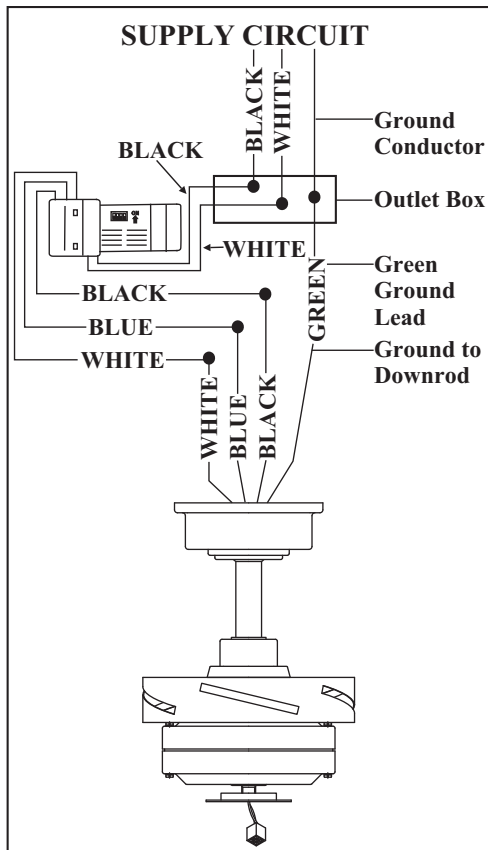

Figure 13
2. (Figure 13) Motor to receiver electrical connections: Connect the black wire from the fan to black wire marked "TO MOTOR L". Connect the white wire from the fan to the white wire marked "TO MOTOR N" from the receiver. Connect the blue wire from the fan to the blue wire marked "For Light" from the receiver. Secure the wire connections with the plastic wire connecting nuts provided.
3. (Figure 13) Receiver to house supply wires electrical connections: Connect the black (hot) wire from the ceiling to the black wire marked "AC in L" from the receiver. Connect the white (neutral) wire from the ceiling to the white wire marked "AC in N" from the receiver. Secure the wire connections with the plastic wire connecting nuts provided.
4. (Figure 13) If your outlet box has a ground wire (green or bare copper) connect it to the fan ground wires; otherwise connect the hanging bracket ground wire to the mounting bracket. Secure the wire connection with a plastic nut provided. After connecting the wires spread them apart so that the green and white wires are on one side of the outlet box and black and blue wires are on the other side. Carefully tuck the wire connections up into the outlet box.